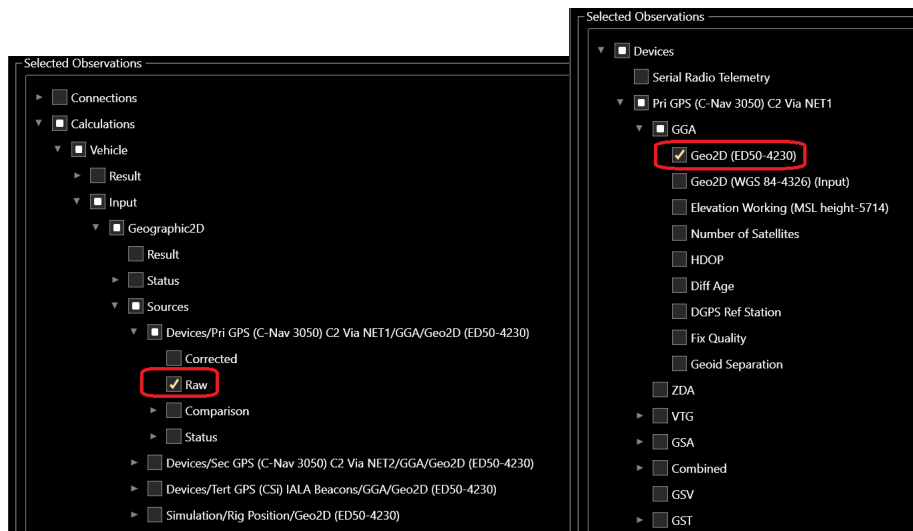

FIGURE 14-69 DATA RECORDING - REDUNDANCIES
**Note:** There are redundancies in the Selected Observations. For example, Figure 14-69 shows the same 2D Geographic observation selected via the Vehicle branch and the Devices branch. However, users are warned not to be overly selective in an attempt to minimize media space when logging data in case the required data is overlooked and not logged.